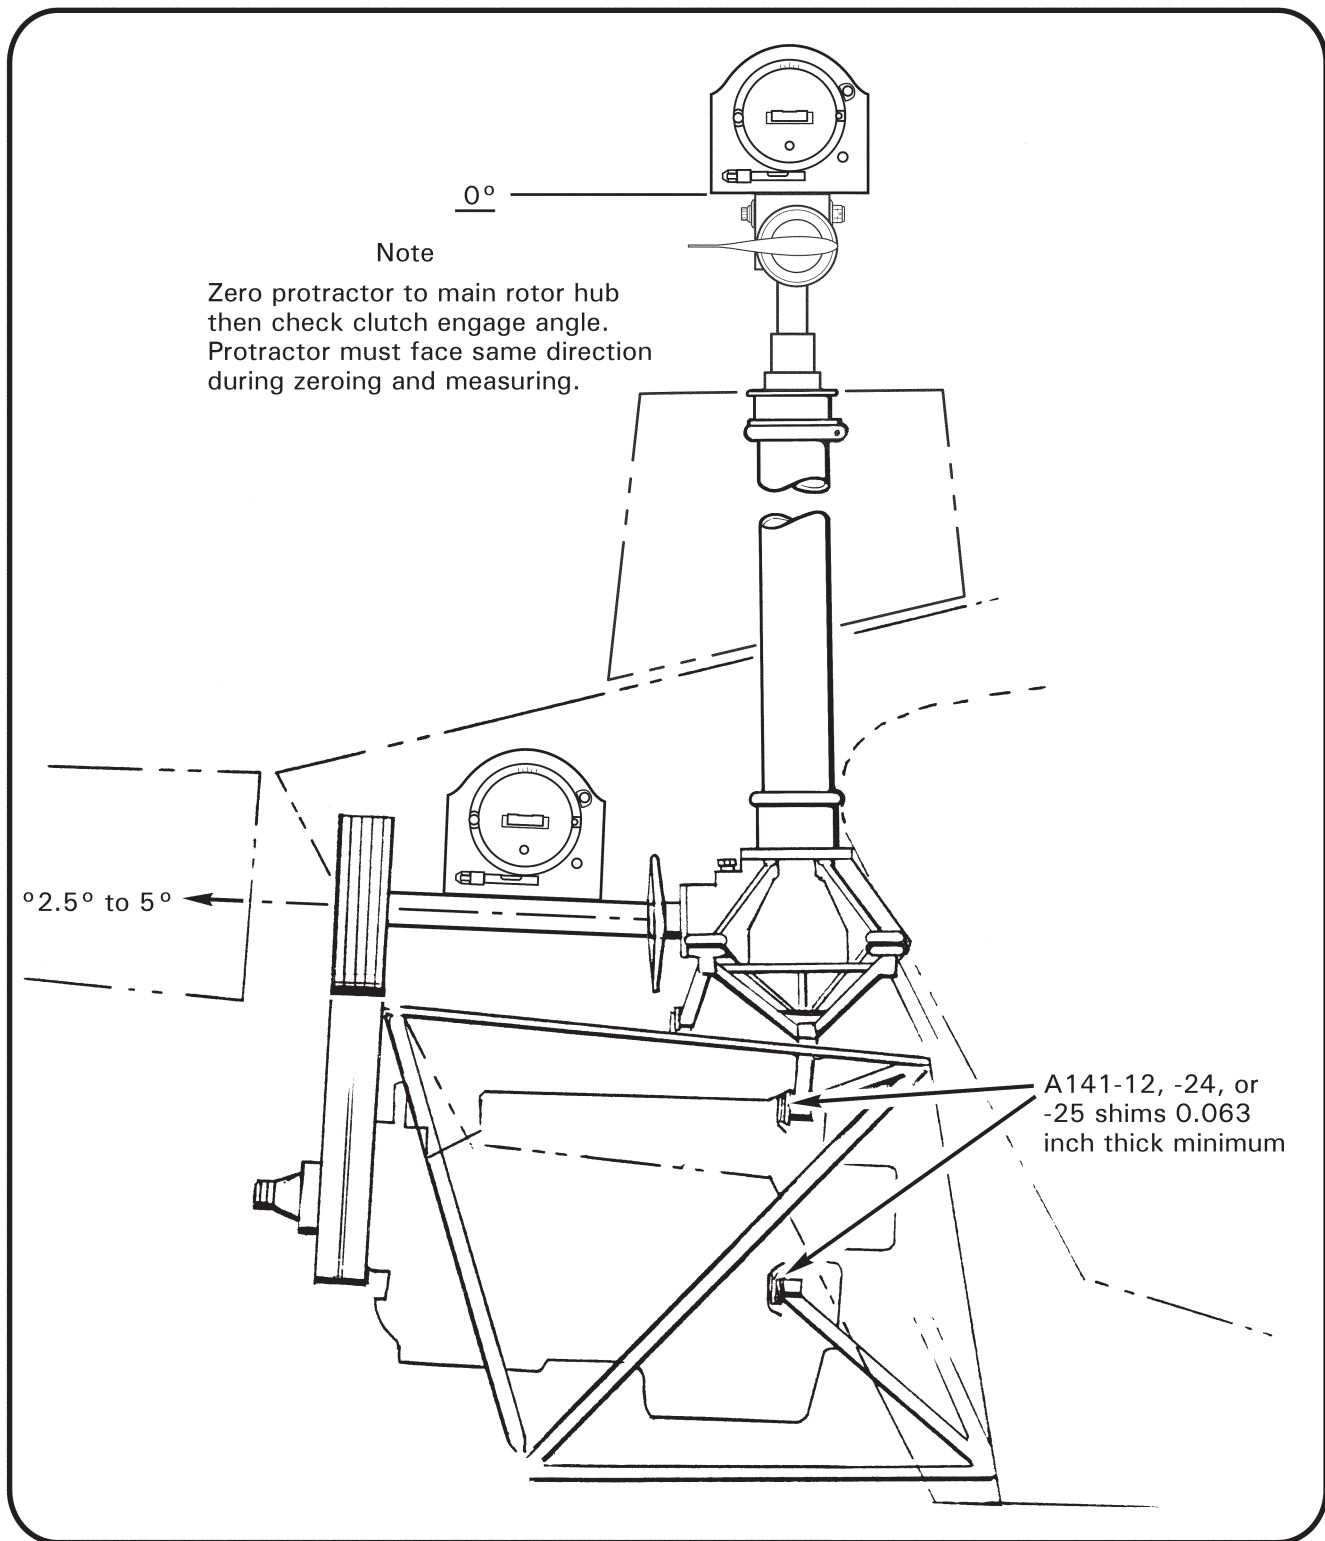

FIGURE 7-6 MEASURING CLUTCH SHAFT ANGLE
1. See Figure 7-6. Orient main rotor blades perpendicular to centerline of helicopter. Position protractor atop main rotor hub facing right side of helicopter as shown. Zero protractor to main rotor hub.
2. Turn master switch on and engage clutch. Check angle of clutch shaft per Figure 7-6.